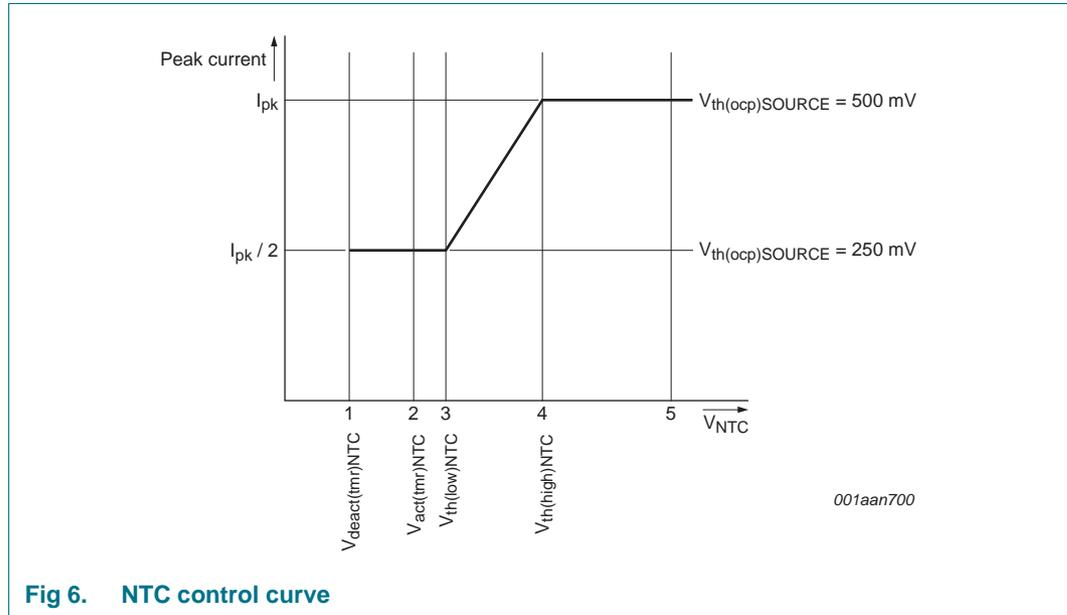

Fig 6. NTC control curve
The NTC pin can be used as a control method for LED thermal protection. Alternatively, the pin can be used as an input to disable/enable light output using a digital signal (PWM regulation). The pin has an internal current source that generates the current of $I_{\text{offset}(\text{NTC})}$. An NTC resistor to monitor the LED temperature can be connected directly to the NTC pin. Depending on the resistance value and the corresponding voltage on the NTC pin, the converter reacts as shown in Figure 6.
When the voltage on the NTC pin is higher than $V_{th(high)NTC}$ (see Figure 6 (4)), the converter delivers nominal output current. When the voltage is lower than this level, the peak current is gradually reduced until $V_{th(low)NTC}$ is reached (see Figure 6 (3)). The peak current is now half the peak current of nominal operation. When $V_{act(tmr)NTC}$ is passed (see Figure 6 (2)), a timer starts to run to distinguish between the following situations:
- If the low-level $V_{deact(tmr)NTC}$ is not reached within time $t_{to(deact)NTC}$ (see Figure 6 (1)), LED overtemperature is detected. The IC stops switching and attempts to restart from the HV pin voltage. The converter restarts from an NTC protection shutdown when the voltage on the NTC pin exceeds $V_{th(high)NTC}$ (see Figure 6 (4)). It is assumed that the reduction in peak current does not result in a lower NTC temperature and LED OTP is activated.
- If the low-level $V_{deact(tmr)NTC}$ is reached within the time $t_{to(deact)NTC}$ (see Figure 6 (1)) it is assumed that the pin is pulled down externally. The restart function is not triggered. Instead, the output current is reduced to zero. PWM regulation and consequently LED output current regulation can be implemented this way. The output current rises again when the voltage is higher than $V_{th(low)NTC}$.
The NTC pin can be used to make a soft start function. During switch-on, the level on the NTC pin is low. By connecting a capacitor (in parallel with the NTC resistor), a time constant can be defined. The time constant causes the level on the NTC pin to increase slowly. When passing level $V_{th(low)NTC}$ (see Figure 6 (3)), the convertor starts with half of the maximum current. The output current slowly increases to maximum when $V_{th(high)NTC}$ (see Figure 6 (4)) is reached.